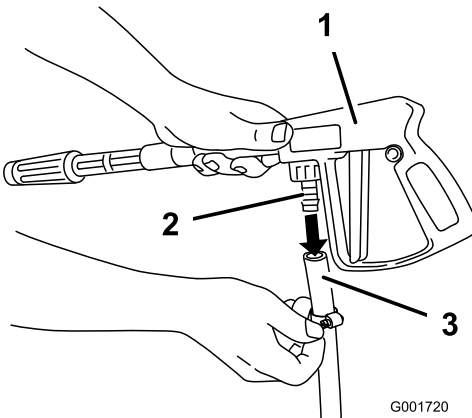

Figure 17
2. Connect the free end of the long hose to the fitting on the spray gun (Figure 17).